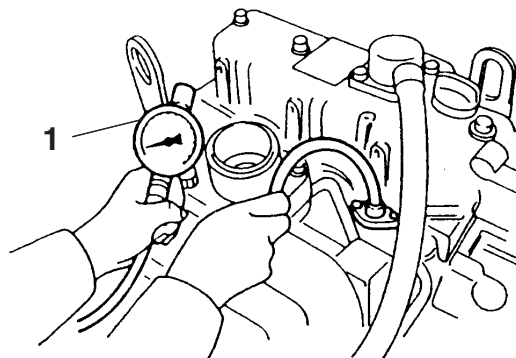

Figure 14-1
4. Before installing the compression gauge (**Figure 14-1, (1)**) adapter, crank the engine with the stop solenoid disconnected for a few seconds to clear the cylinder of any residual fuel.